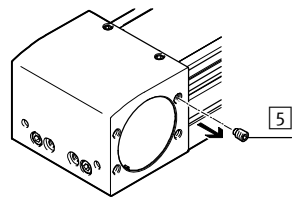

Fig. 14
- Connect sealing air. For this, remove threaded dowel (5) → Fig. 14) from drive cover and connect up compressed air / vacuum extraction. For additional protection, use other sealing air connections. This is possible on both drive covers on both sides.